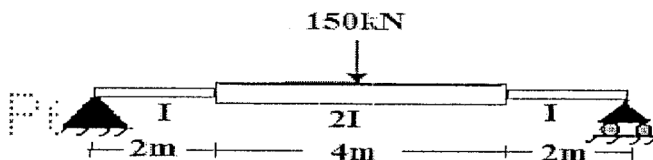

Figure: 3
11. Determine the slopes at the ends and deflection at the mid span section of a beam loaded shown in figure 3 using Conjugate beam method. Take elastic modulus as 'E'. [10]